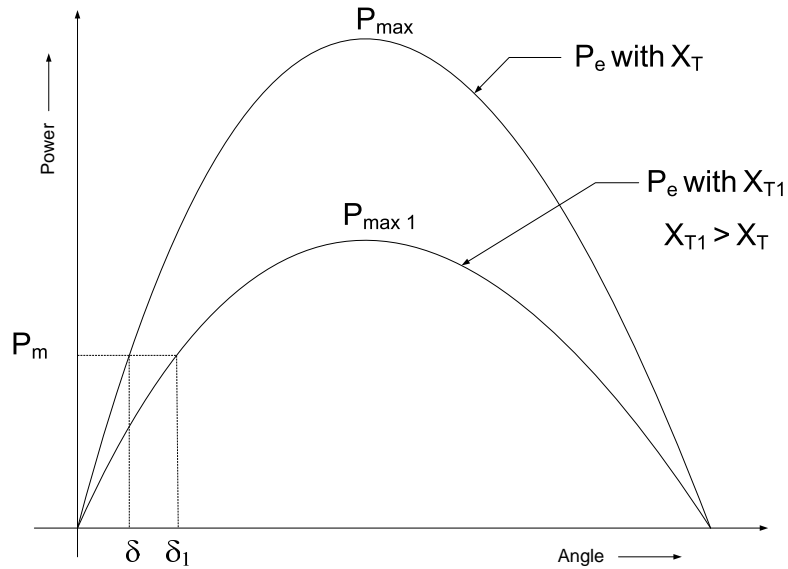

Figure 2: Power angle curve
where  $P_{max} = \frac{E' E_{bus}}{X_T}$ . Equation (13) is diagrammatically represented in Figure 2. Under steady
state  $P_m = P_e$ , and let the corresponding rotor angle be  $\delta$ . From (13),  $P_{max}$  is inversely proportional to  $X_T$ . With  $X_T$  increased to  $X_{T1}$ ,  $P_{max}$  reduces to  $P_{max1}$  as shown in Figure 2 and also the steady state angle  $\delta$  increases to  $\delta_1$ .